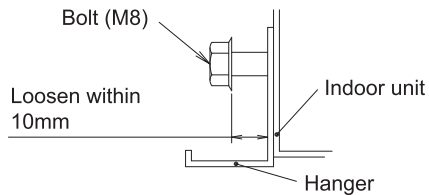

Fig. 7
- Loosen 2 bolts for installing the hanger at both sides (M8) (4 places at left and right) within 10mm. (Refer to Fig. 7 and Fig. 8)